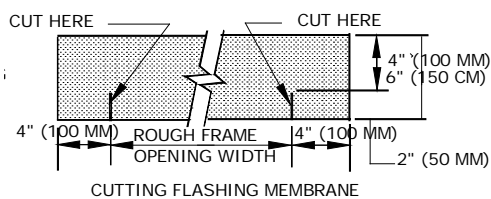

Fig 11.2
- Cut a strip of self-adhering flashing to a width of 12 in. (30cm) and a length equal to that of the rough opening width plus 8 in. (20cm). Make two 2 in. (5cm) long cuts into flashing even with jambs (Fig. 11.2).